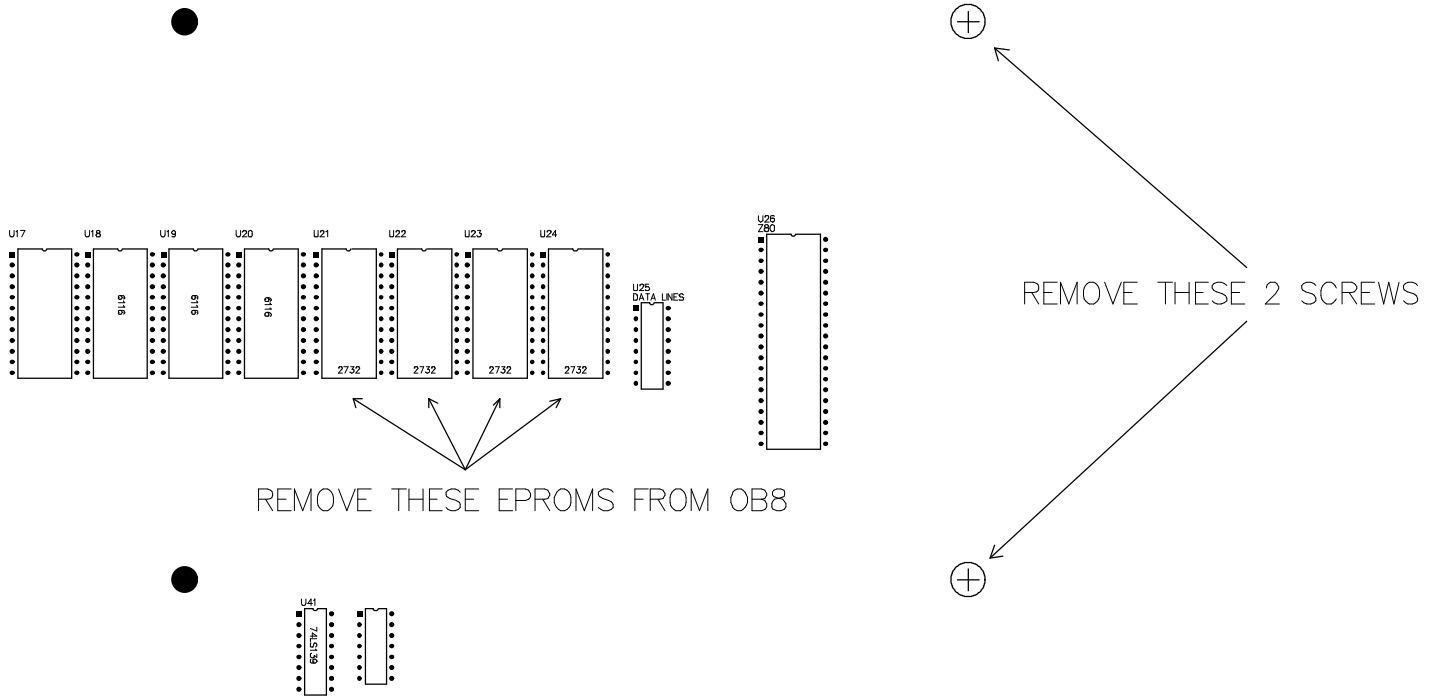

FIGURE 1
- o Remove the 4 EPROMs from the CPU BOARD as shown in Figure 1.
- o Remove the 2 screws from the CPU BOARD as shown in Figure 1.
- o Remove IC5 from the MIDI board. (It is a 74LS139) Carefully install the chip where the 16 pin ribbon cable was plugged in to the CPU board. (The location is marked U41 in Figure 1)